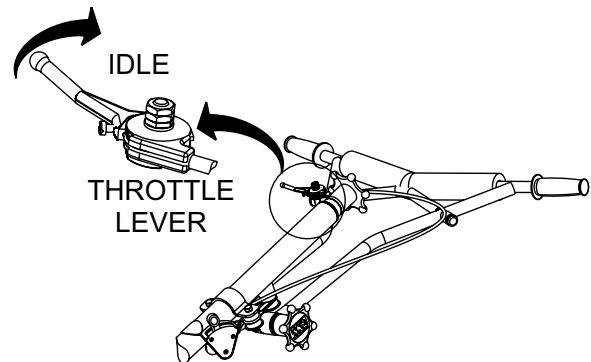

Figure 25. Throttle (Idle Position)
3. Pull the *throttle lever* (Figure 25) backwards and place in the "idle" position.